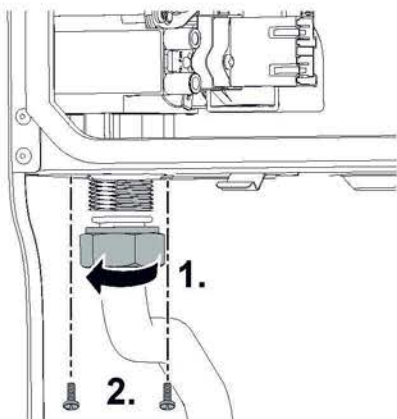

Fig. 77 Gas valve lower connection
- 1. Refer to figure 77 and undo bottom gas connection to gas valve.